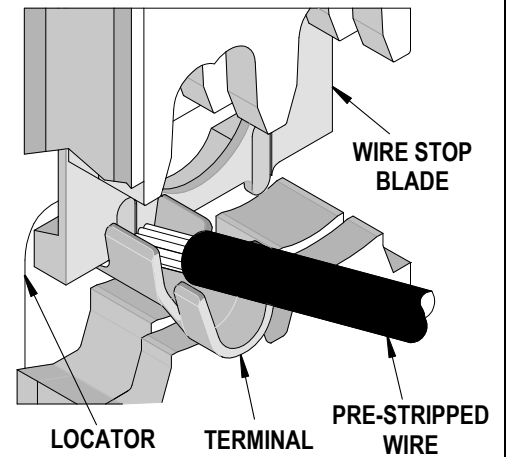
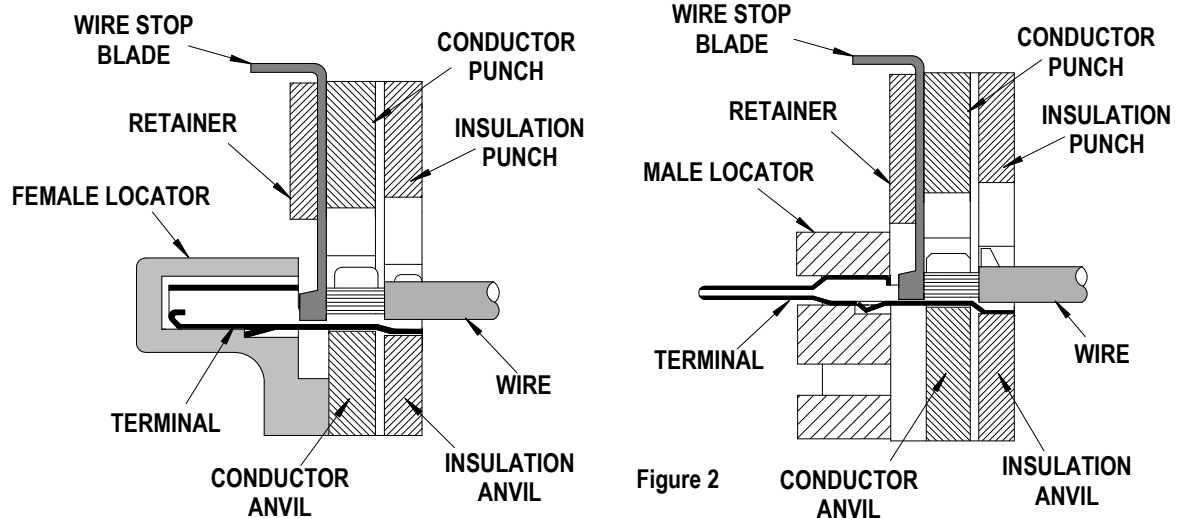

Figure 1
Figure 2
6. Slide the pre-stripped wire into the terminal; make sure to aim the wire brush towards the tip point on the wire stop blade. See Figure 1. Align the wire so that it is parallel and sitting into the terminal. Maintain a light and constant pressure on the wire that is seated in the terminal at all times. (Do not let go of the wire.) Be sure to hold the wire and terminal in place until the terminal is fully crimped. See Figure 2.